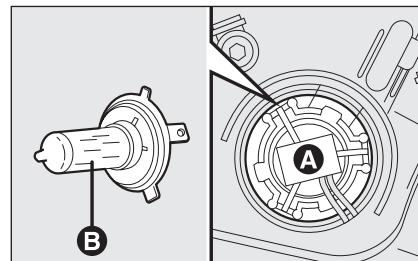

fig. 17
- press on the central electrical connector **A**-fig. 17 and withdraw the assembly;